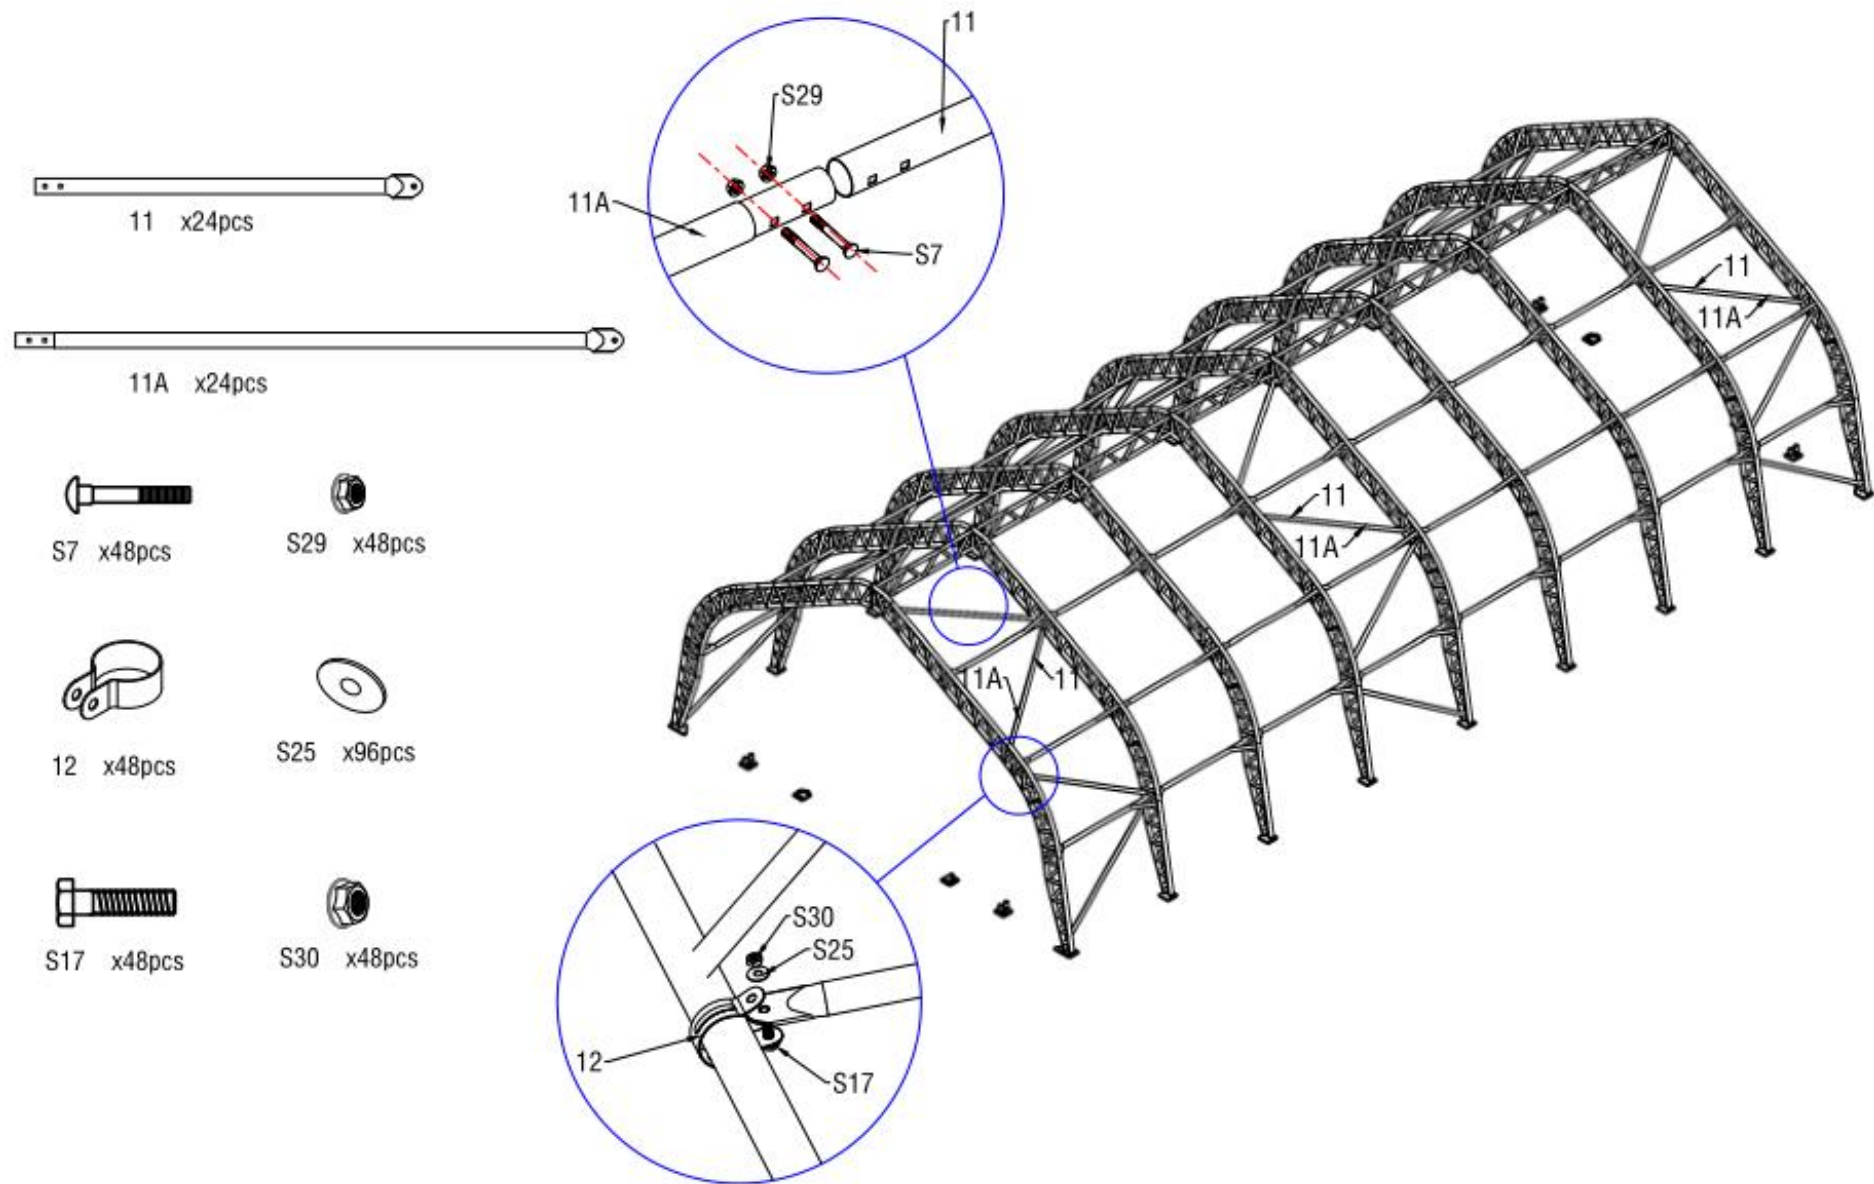

Figure 10
- As figure 10 shown to find Diagonal Support Female Tube(No.11) and Diagonal Support Male Tube(No.11A) and assemble every group support tube with Carriage bolt M8x60(No.S7) and flange nut M8(No.S29). Then connect the diagonal support tube to arch by using clip(No.12).